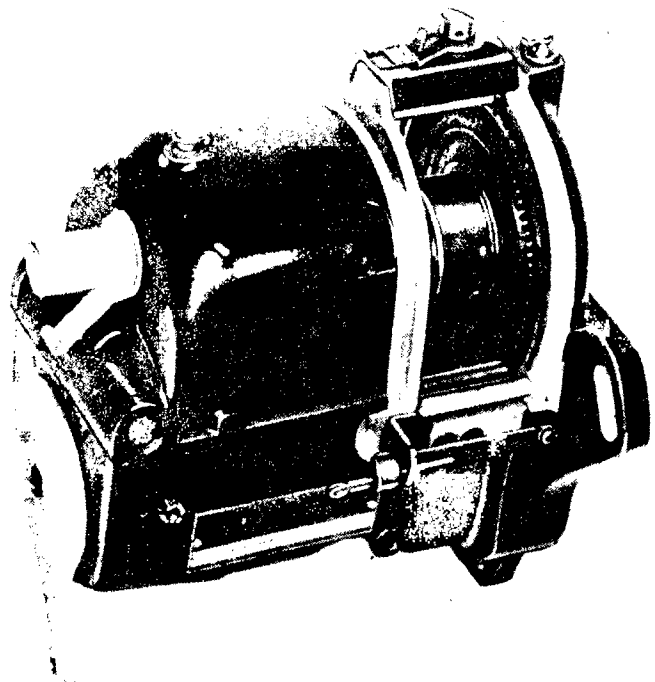
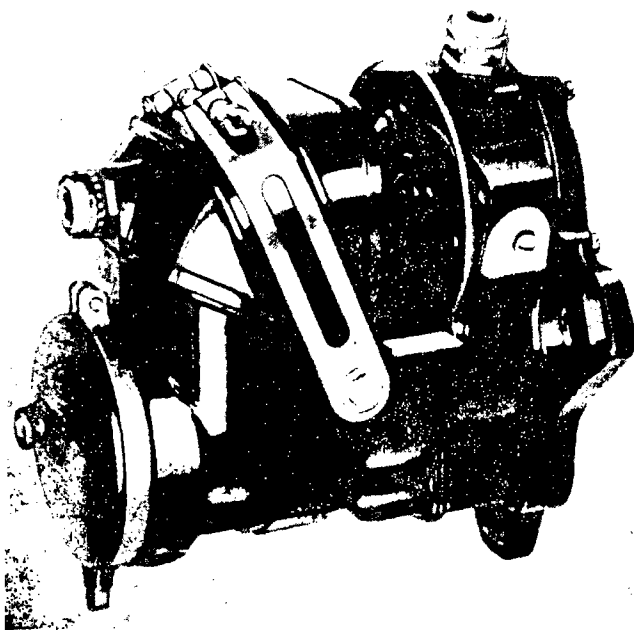

Figure 11 — Scintilla VMN7DF Magneto Used on W670-6A Engine
Figure 12—Scintilla SF7RN-1 Magneto Used on W670-6N, 16, and 17 Engines
(2) The fuel pump mounting pad is on the body of the rocker scavenge oil pump on all W670 models. However, the pad on the W670-6A is an AN standard "Old Type Pad." The W670-6N has an AN standard "Square Type Pad" (two inches between center line of mounting studs). The rocker scavenge oil pump drive gear on the W670-6N has a spline connection for driving the fuel pump and is provided with an oil seal. The W670-6A has a square coupling for driving the fuel pump, and no oil seal is provided.
(3) The drain hole in the oil sump for the W670-6N has a 1-20 tapped hole to provide for the dehydrator plug required for storage, while the oil sump for the W670-6A has a 1-18 tapped drain hole. Extreme care should be taken to see that the correct plug is used. An incorrect plug will cause damage to the threads in the oil sump.
(4) The magnetos used on the W670-6A are Scintilla Model VMN7DF. (See figure 11). The ignition drive shafts on the W670-6A have serrated connections for driving the magneto drive shafts by means of a serrated coupling. The ignition drive gears for the W670-6N have spline connections for driving the spline drive shaft on the SF7RN1 magnetos (See figure 12).
(5) The individual cable lengths for the ignition wiring assembly on the W670-6A are slightly shorter than those for the other models because of the difference in magnetos.